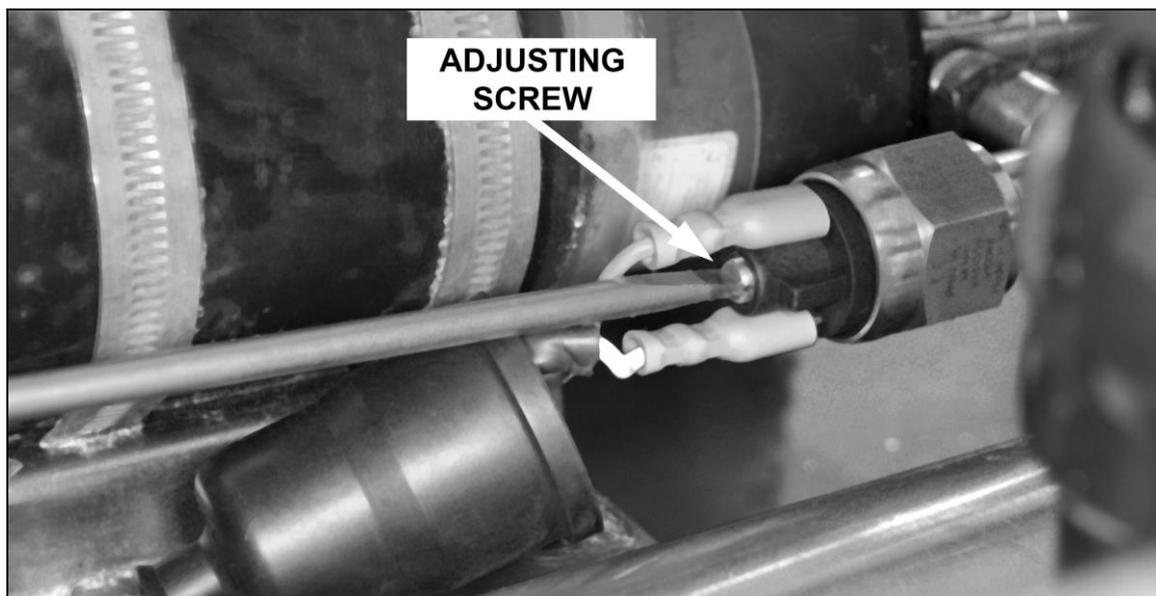

Fig. 11 – Pump Pressure Switch with Screwdriver
1. Locate the pressure switch mounted on the T-piece at the outlet of the pump – see Fig. 11. Slide the black cover away from the switch body, taking care not to disconnect the two wires.